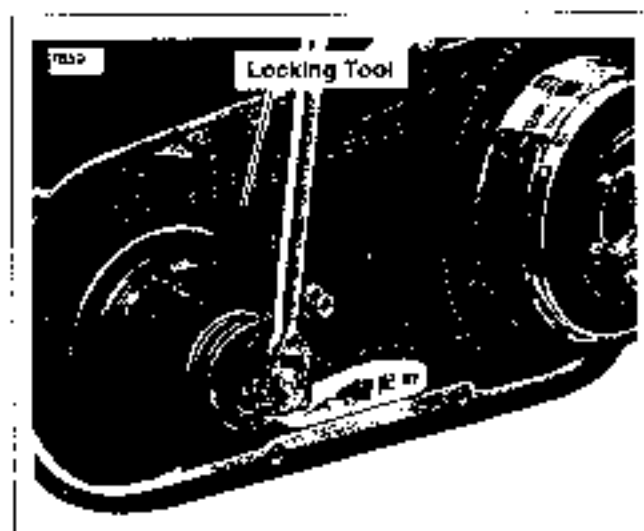

Figure 6-10. Removing Compensating Sprocket Nut
See Figure 6-10. When removing the compensating sprocket nut the **PRIMARY DRIVE LOCKING TOOL** (Part No. HD-41214) must be placed between upper strand of primary chain and compensating sprocket.
7. See Figure 6-10. Using a breaker bar, remove the compensating sprocket nut.